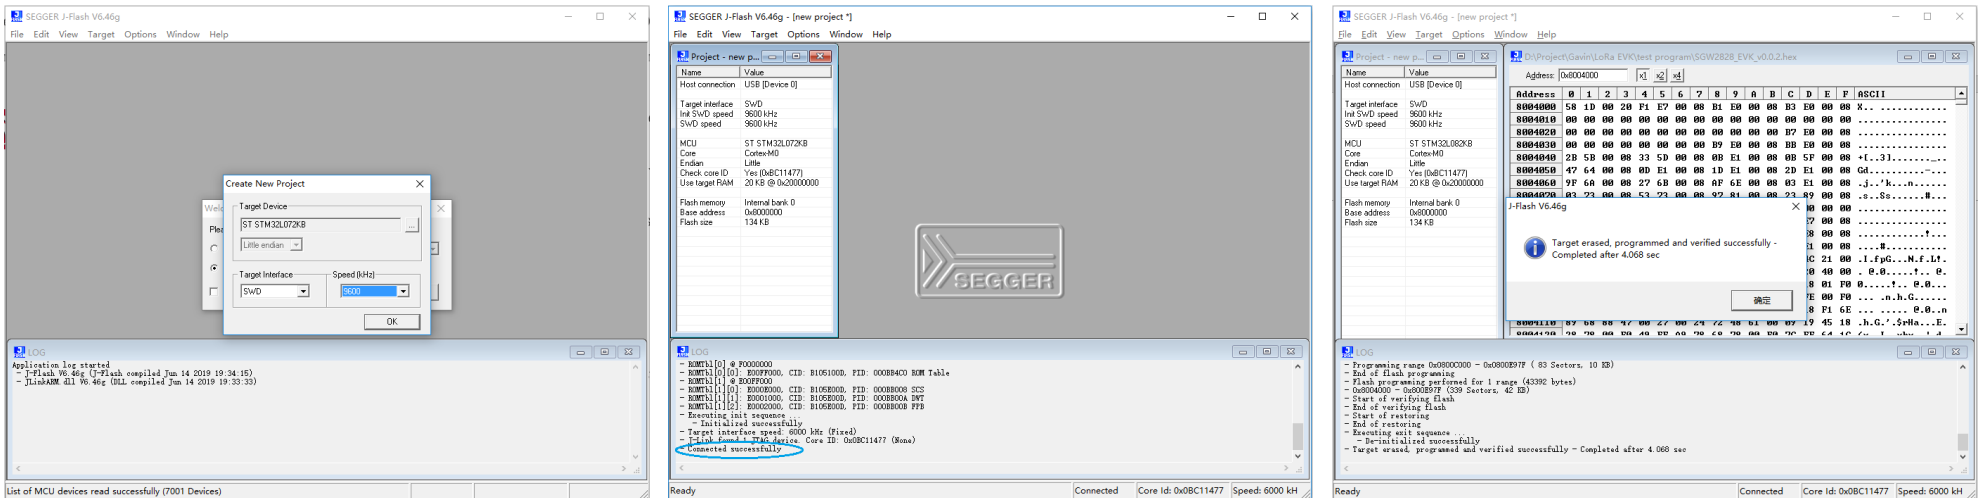

Figure 15: SGW2828-EVK MCU Program Download
2. Open the SEGGER J-Flash software. Create a new project with settings (Figure 15).